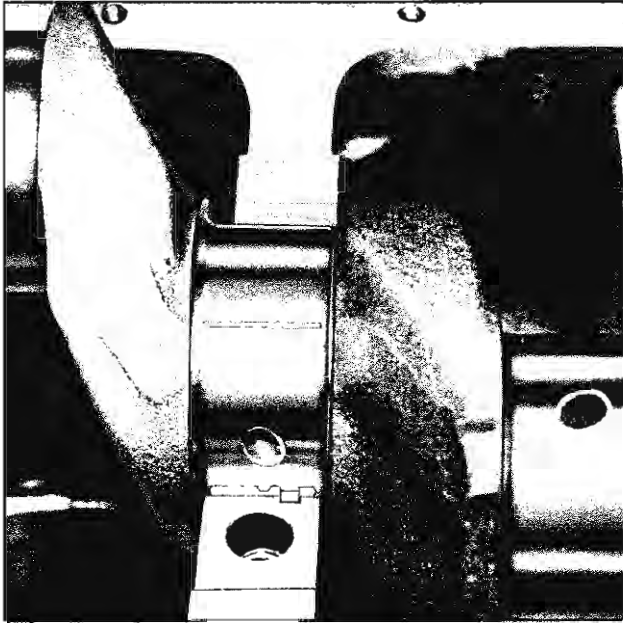

Fig. 49—Plastigage on Journal
2. Place a piece of Plastigage the full width of the bearing (parallel to the crankshaft) on the journal (fig. 49).